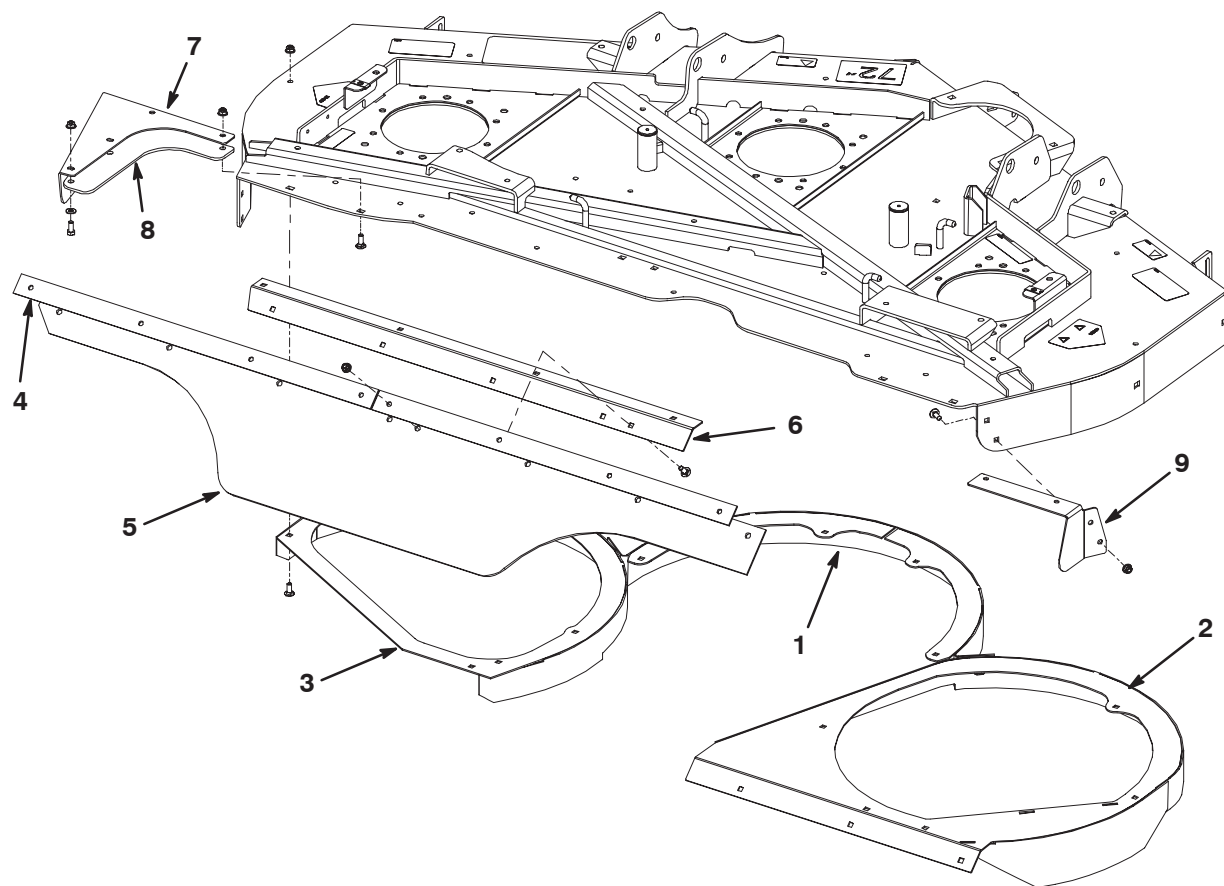

Figure 5
1. Loosely mount the new chambers to the under side of the mower deck with (12) 5/16 x 3/4 in. carriage bolts and flange nuts (4 bolts & nuts per chamber). The bolt heads are to be positioned inside the mower deck. Position the chambers as shown in figure 5.
2. Loosely mount the outer chambers to the center to the center chamber with (2) 5/16 x 3/4 in. carriage bolts and flange nuts
3. Loosely mount a support strap and the the left (angled) end of the deflector to the rear angle with (4) 5/16 x 7/8 in. carriage bolts and flange nuts (Fig. 5). The bolt heads are to be positioned next to the rear angle.
4. Loosely mount the rear angle w/deflector to the rear of the mower deck with (4) 5/16 x 7/8 in. carriage bolts and flange nuts (Fig. 5). The bolt heads are to be positioned next to the rear angle.
5. Loosely mount a support strap and the the right (square) end of the deflector to the back of the RH chamber with (4) 5/16 x 7/8 in. carriage bolts and flange nuts (Fig. 5). The bolt heads are to be positioned in the chamber.
6. Mount a foot shield to the top and side of the right rear corner of the mower deck with (4) 5/16 x 3/4 in. carriage bolts and flange nuts (Fig. 5).
7. Mount a foot shield and a deflector to the top and side of the left rear corner of the mower deck with (2) 5/16 x 7/8 in. carriage bolts, (2) 5/16 x 3/4 in. carriage bolts and flange nuts (Fig. 5).
8. Secure the deflector to the foot shield with (2) capscrews, washers and flange nuts (Fig. 5).